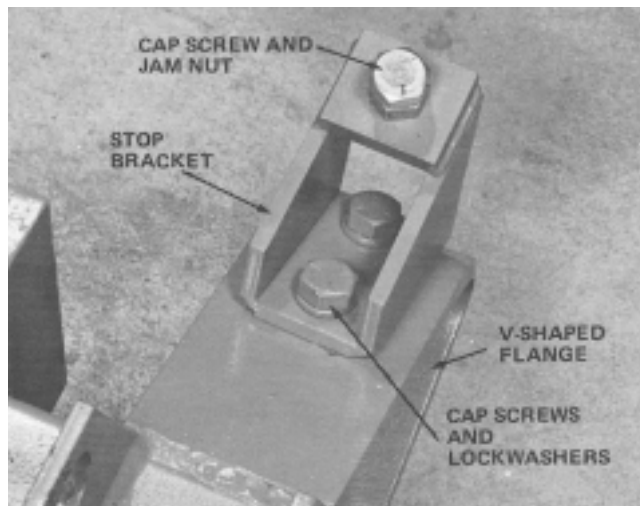

Figure 4
6. Remove capscrew and jam nut from V-shaped flange at rear of plow. Next, install stop bracket on V-flange with two capscrews and lockwashers (Fig. 4). Lastly, install capscrew and jam nut into stop bracket (Fig. 4). Thread capscrew and jam nut into stop bracket as far as possible.